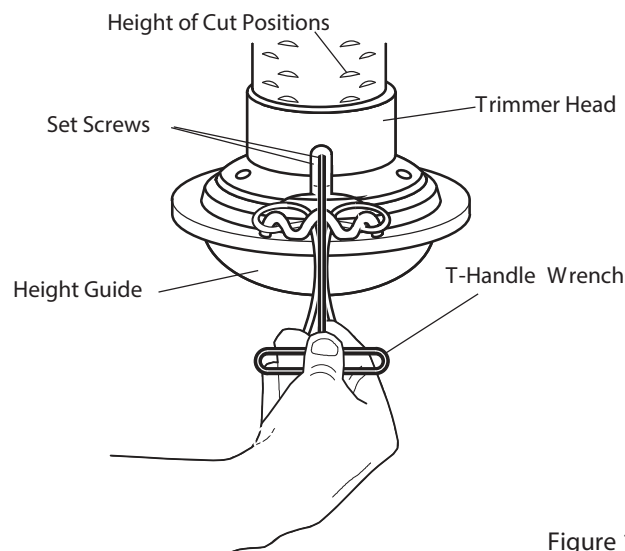

Figure 10
6.12.2 Use the T-Wrench found in the parts bag, to loosen t he (2) set screws (See Figure 10).